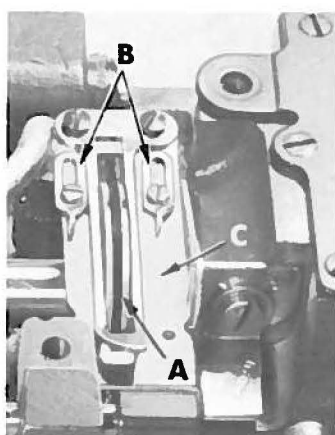

Fig. 14
The looper thread take-up (A, Fig. 14) is not spotted on mainshaft and consequently is set correctly when the looper thread is just cast-off the highest lobe of the take-up, when the point of the needle is approximately $\frac{1}{32}$ inch below the underside of the looper. The looper thread eyelets (B) located on the cast-off plate (C) are adjustable and should be set all the way forward in their slots (Fig. 14).